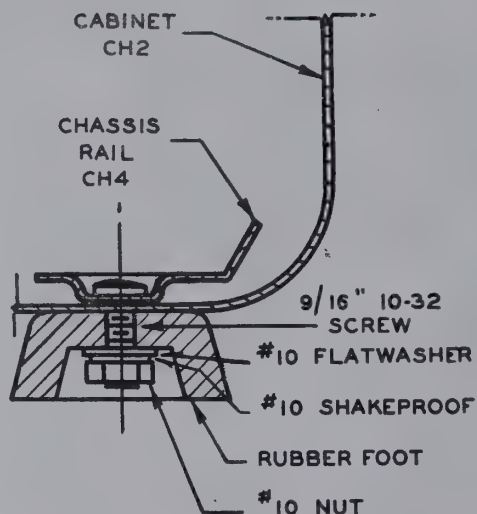

FIG. 10C. CABINET, RAIL,
- 1. ( ) Attach the two rails and the four mounting feet to the bottom (the side with four holes) of the cabinet as indicated in Figure 10C. The slanting side of each rail must be oriented toward the rear side of the cabinet.